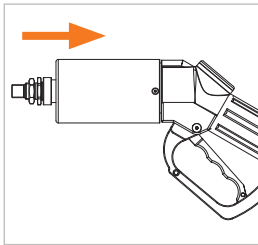

Figure 19
- ▶ Push the WEH® Service receptacle into the fueling nozzle until it stops and hold the nozzle in this position (OFF position) (Figure 19).